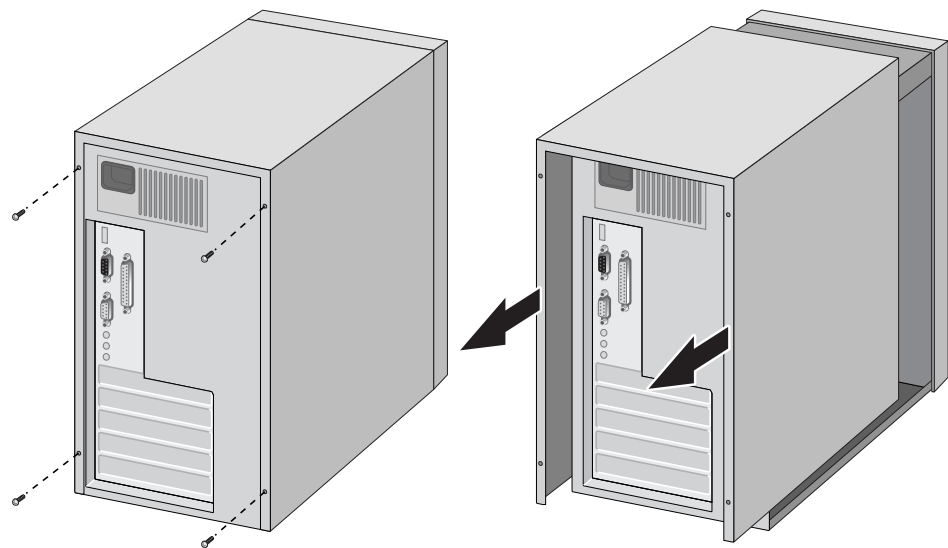

Figure 8. Removing the PC Cover
2. Remove the system cover and select any empty PCI slot. See Figure 8.